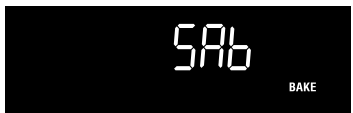

Fig. 1
6. Press and hold both **Cook Time** and **Delay Start** keypads simultaneously for about 3 seconds to set the Sabbath feature. Once the feature is set **SAb** (See Fig. 1) will appear in the display indicating the oven is properly set for the Sabbath feature.